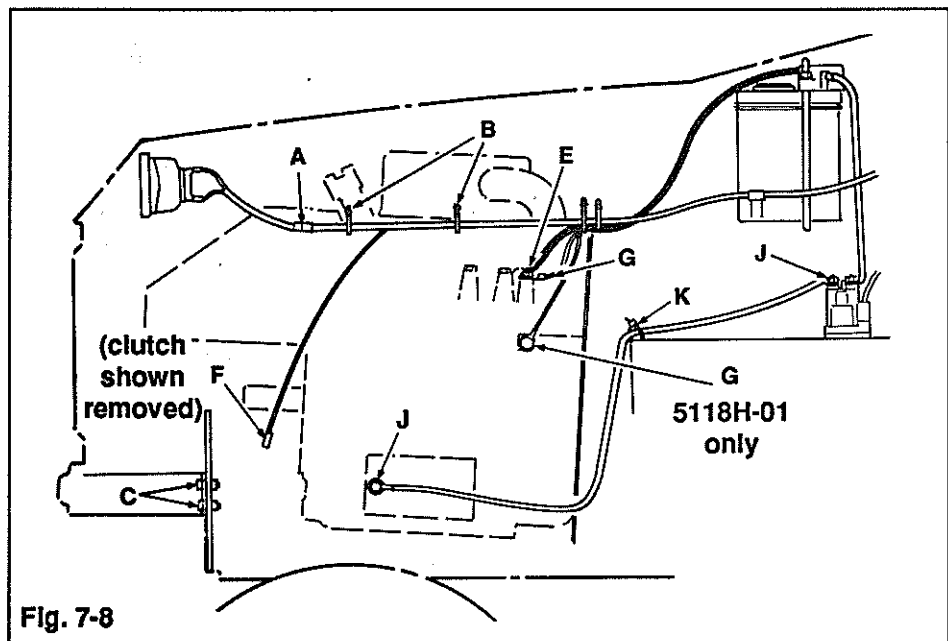

Fig. 7-8
11. Connect starter and solenoid to cable (J, Fig. 7-8). **NOTE:** Install harness tie securing cable to left side of tunnel (K).
12. Route main harness into engine compartment and connect clutch (F), engine plug (E) and ground connection (G) at intake manifold.
14. Connect headlight harness to main harness (A, Fig. 7-8), and secure harness in engine compartment with cable ties (B) in the locations observed at disassembly.